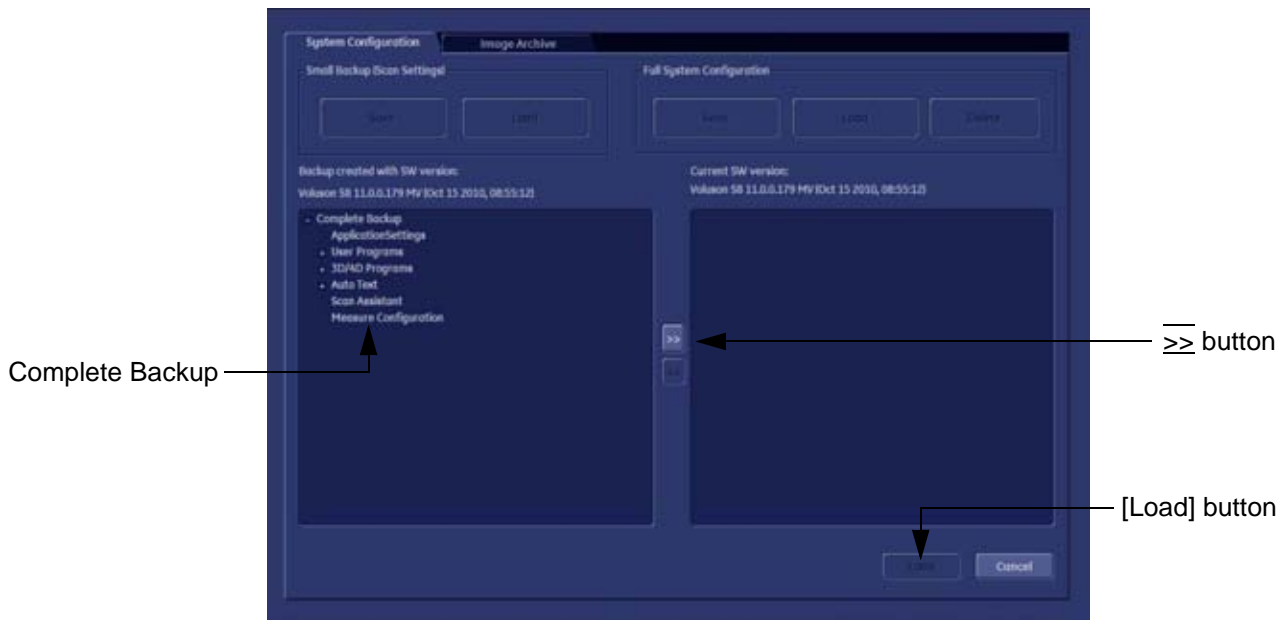

Figure 4-22 Load Backup Data
- 2.) Select the “**Complete Backup**” (marked blue; see: Figure 4-22 below) and click the $\geq\geq$ button to copy the Complete Backup into the Load Data field.